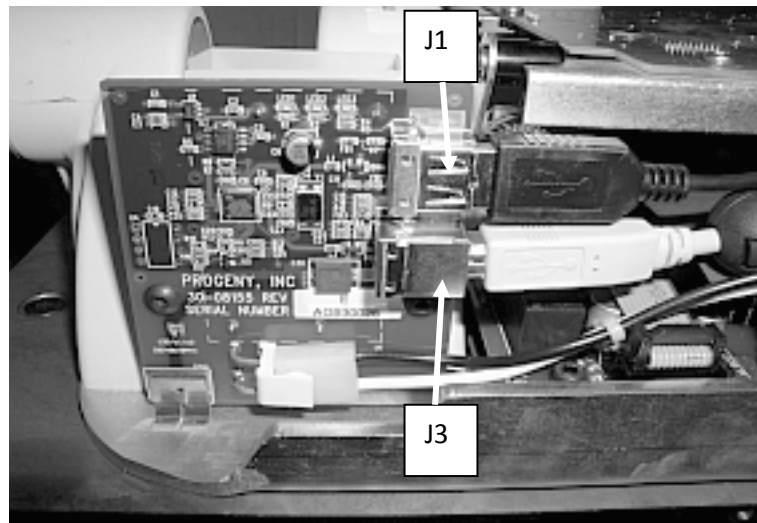

Figure 38: Connecting the Vertical Column Cables to the Powered USB Hub
2. Plug the USB cable from the Vertical Column into the Powered USB Hub at J1 (see Figure 38).
3. Attach the outbound 5 m USB cable into the Powered USB Hub at J3 (see Figure 38).